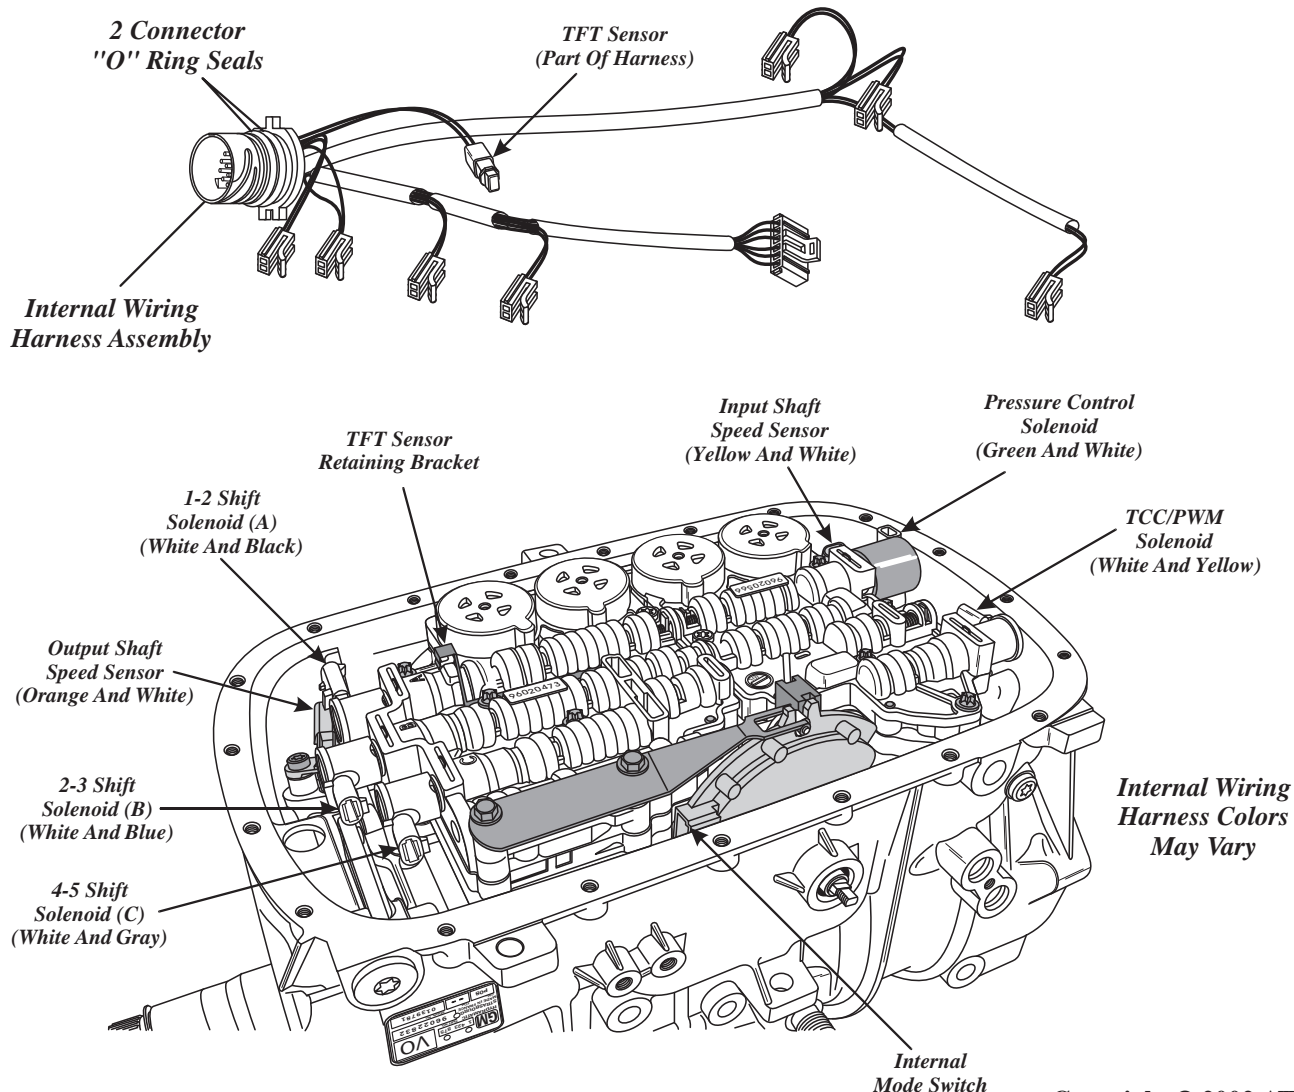

Figure 202
10. Install two new "O" ring seals onto the case connector, as shown in Figure 202, and lube with a small amount of Trans-Jel®.
12. Route the internal harness and connect all the components that are listed in Figure 202.
13. Install the TFT Sensor into the TFT Sensor bracket (See Figure 202).